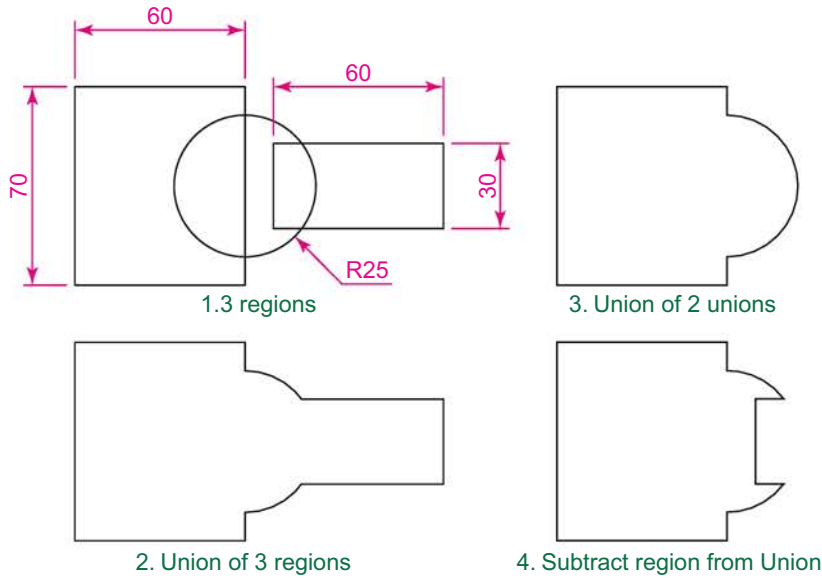

Fig. 9.10 Example – Line and Circle outlines and Region
EXAMPLE – OUTLINES & REGION (FIG. 9.10)
1. Construct the left-hand drawing of Fig. 9.10 using the **Line** and **Circle** tools.
The first two examples of forming regions given in Fig. 9.10 are used to show results of using the **Extrude** tool.
1. Open Fig. 9.10. Erase all but the region 2.
1. Open Fig. 9.10 and erase all but the region 3.